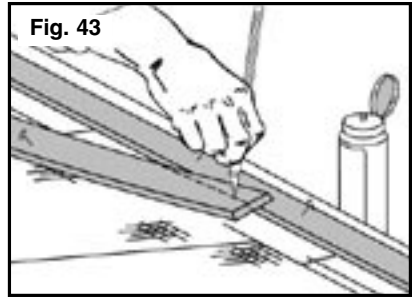

Fig. 43
- D. Cut Track-Bed to form areas for the turnouts (Fig. 43). Let dry and remove Foam Nails.